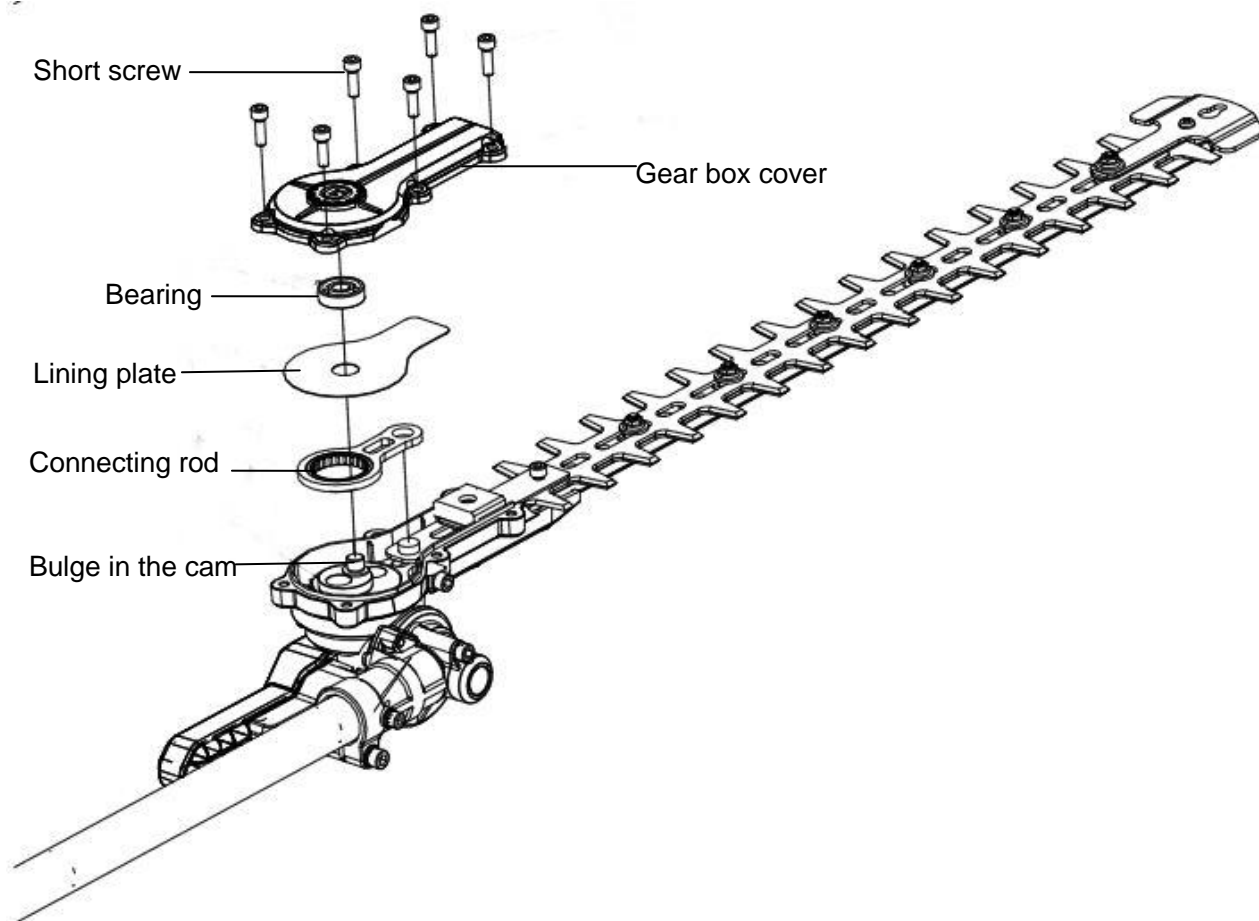

Fig. 28C
5. Align the connecting rod with the rivet in the blade, and install the connecting rod into place. (Fig.28C).
7. Mount the gearbox cover onto the gear case and secure it with 6 short screws (Fig. 28C).